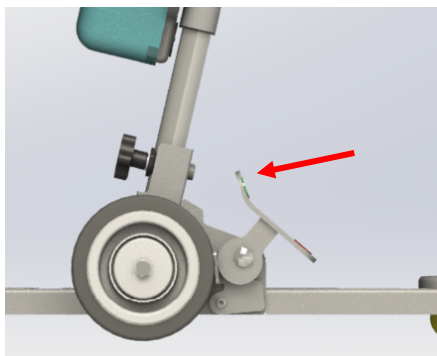

Figure 17
2. To deactivate the brakes, Take your foot or hand and push forward on the green dot on the brake lever, one brake lever at a time. (see figure 17 & 18)